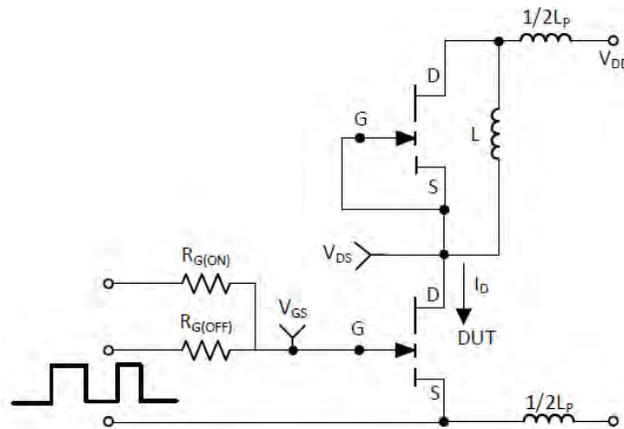

Figure 23: Switching Loss Test Circuit
(8) L_P is the switching circuit parasitic inductance.
(9) See Figure 23 for switching test circuit.